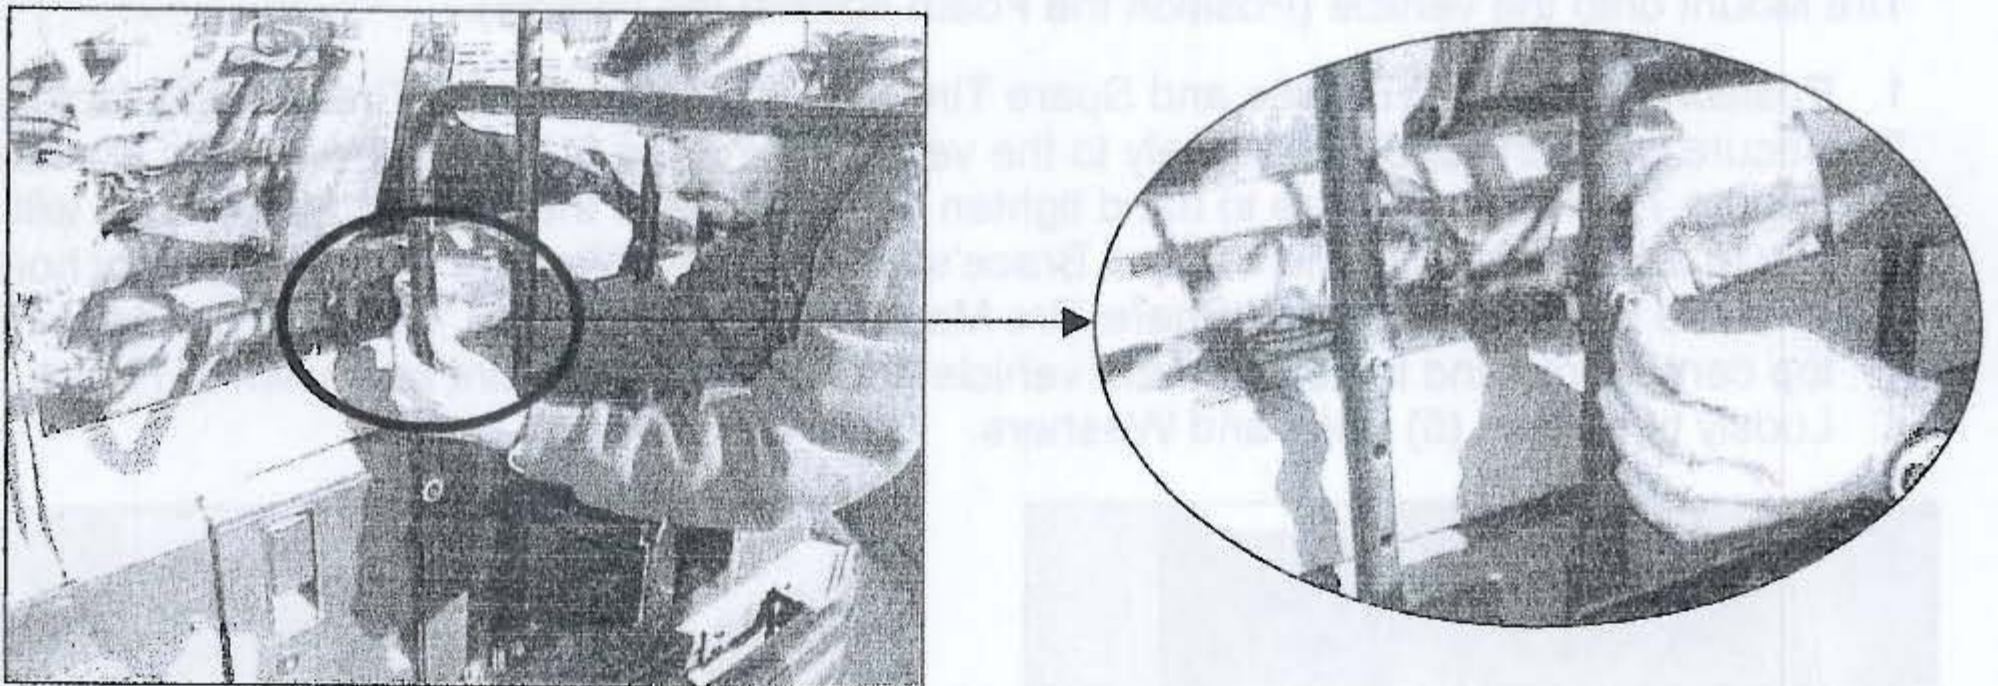

Figure 10
2. Slide the (4) Bars over the (4) Mounting Braces at the same time. Secure using the (4) Bolts, Washers, and Nuts provided (Figure 10).